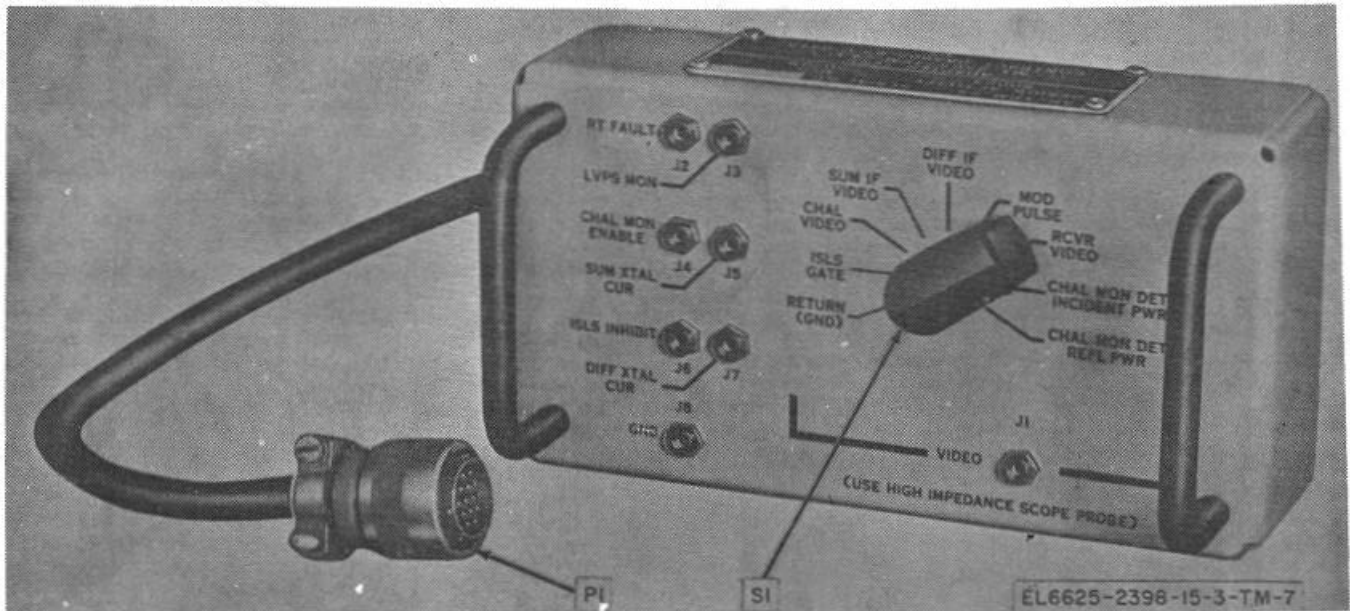

Figure 1-4. Adapter. Test MX-8565/TPM-24(V).
c. *Front Panel Test Adapter.* The front panel test adapter (fig. 1-4) consists of a selector switch and eight test jacks mounted in a small aluminum inclosure. A cable and plug, integral to the front panel test adapter, permit connecting this item to the front panel of the receiver transmitter of the iff set for monitoring and checking various signals of the receiver transmitter. Seven of the test jacks permit direct monitoring of receiver-transmitter signals using external test equipment. The receiver transmitter signal available at the eighth test jack is determined by the setting of the selector switch.